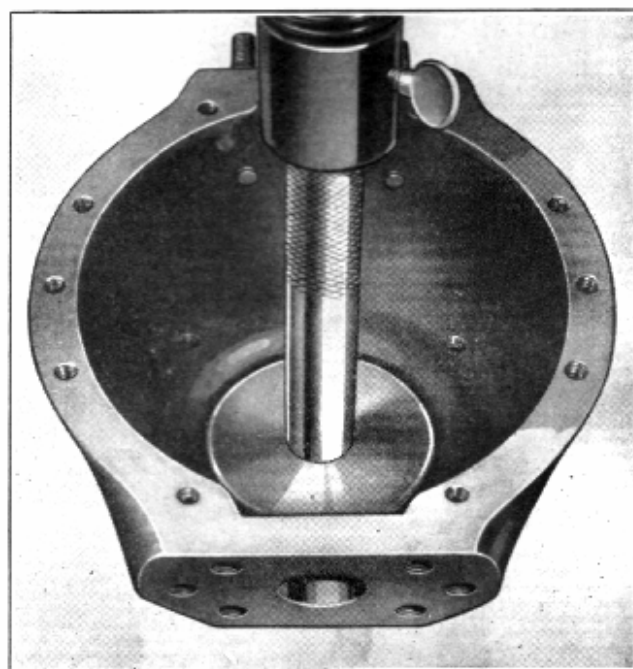

Fig. 21—Installing Inner Bearing Outer Race
- Use Tool No. XG-19850 and Handle No. XG-19854 for the 5" joint and Tool No. XG-19848 and Handle No. XG-19854 for the 6" joint. Press the race into its seat in the knuckle as shown in Fig. 21.